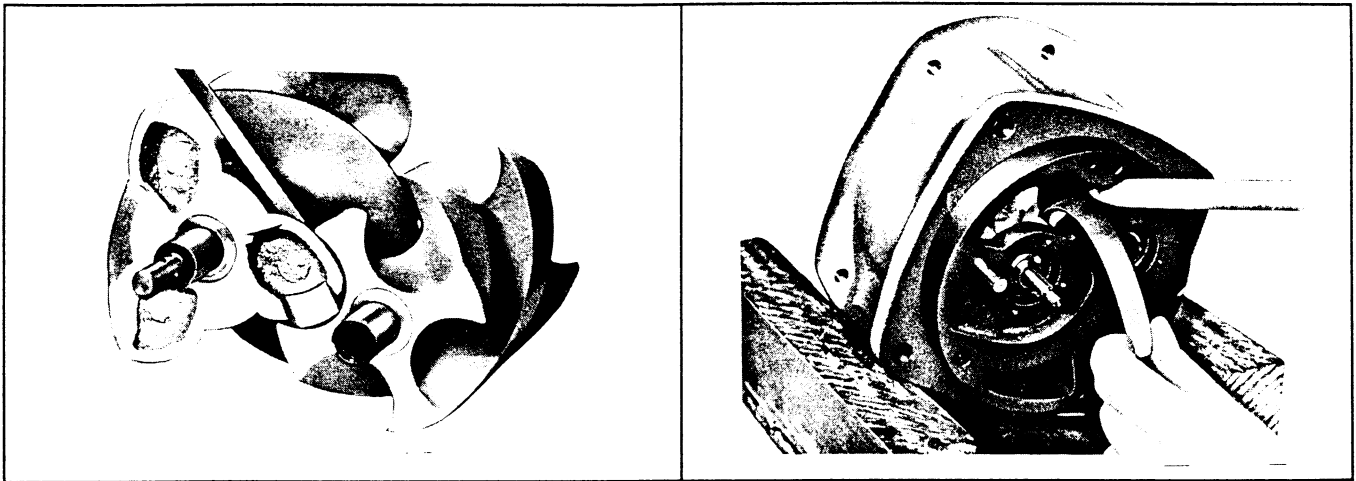

Figure 4-3 Proper Method for Timing
11. Place lockwasher (item 15) on the threaded rotor shaft. Engage the bent tab of the lockwasher with the hole in the flat side of the timing gear. Attach locknuts (item 14) to the threaded rotor shafts but do not tighten until the proper timing procedure and rotor clearance has been accomplished.
12. Timing (Reference Figures 4-3 and 4-4)
- A. Insert a holding device (nylon or wooden dowel) into the port opening of the front end plate to prevent the rotors from turning. Tighten the locknut (item 14).
- B. Place a 0.004 inch feeler gauge between a lobe of the 3-tooth rotor and the flute of the 4-tooth rotor through the port opening of the front end plate as shown in Figure 4-3.
- C. Using the holding device to keep the rotors from turning, tighten locknut (item 14) of the large timing gear (item 8) on the shaft of the 4-tooth rotor.